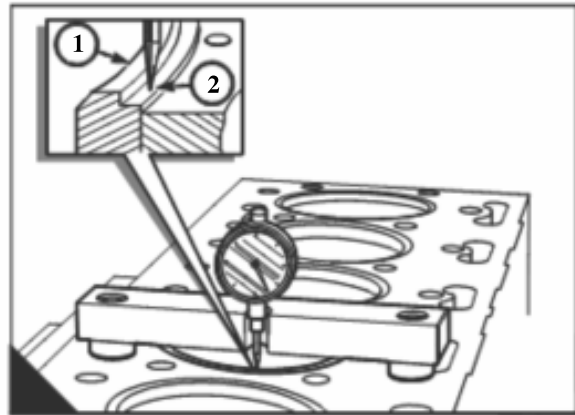

Fig .G3
10. Use tool PD.41D to check that the liner flange is between 0,10 mm (0.004 in) above to 0,10 mm (0.004 in) below the top face of the cylinder block (Fig.G3)